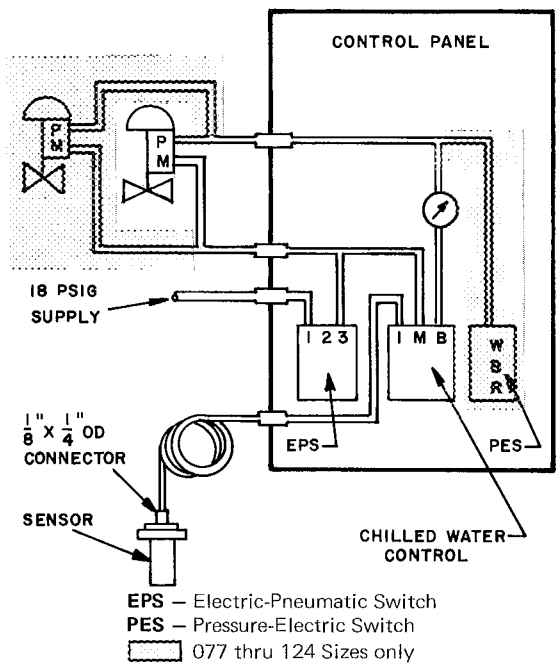

Fig. 6 – Pneumatic Control Detail
3. Install tubing as shown in Fig. 6, Pneumatic Control Detail.
Pneumatic Tubing — Install pneumatic tubing from control panel to control valve(s) as shown in Fig. 6.